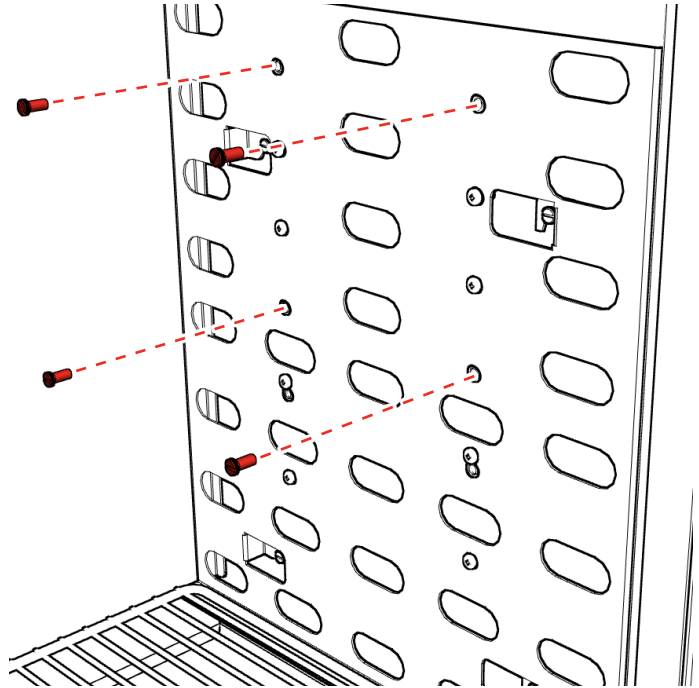
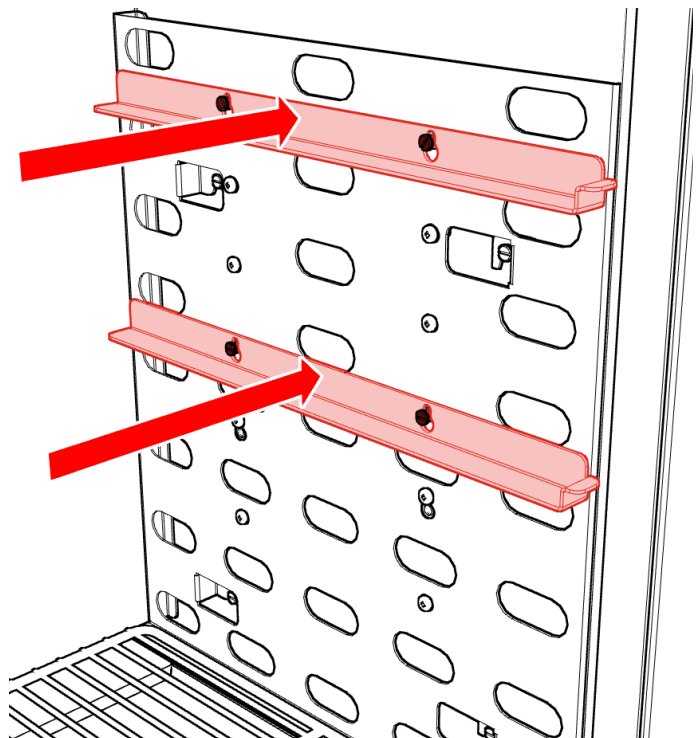

Fig. 31
Fig. 32
3. Loosely install shoulder bolts at desired shelf height (Fig. 31). Rest shelf rail keyholes onto shoulder bolts, and tighten bolts until fully secure into freezer walls (Fig. 32).